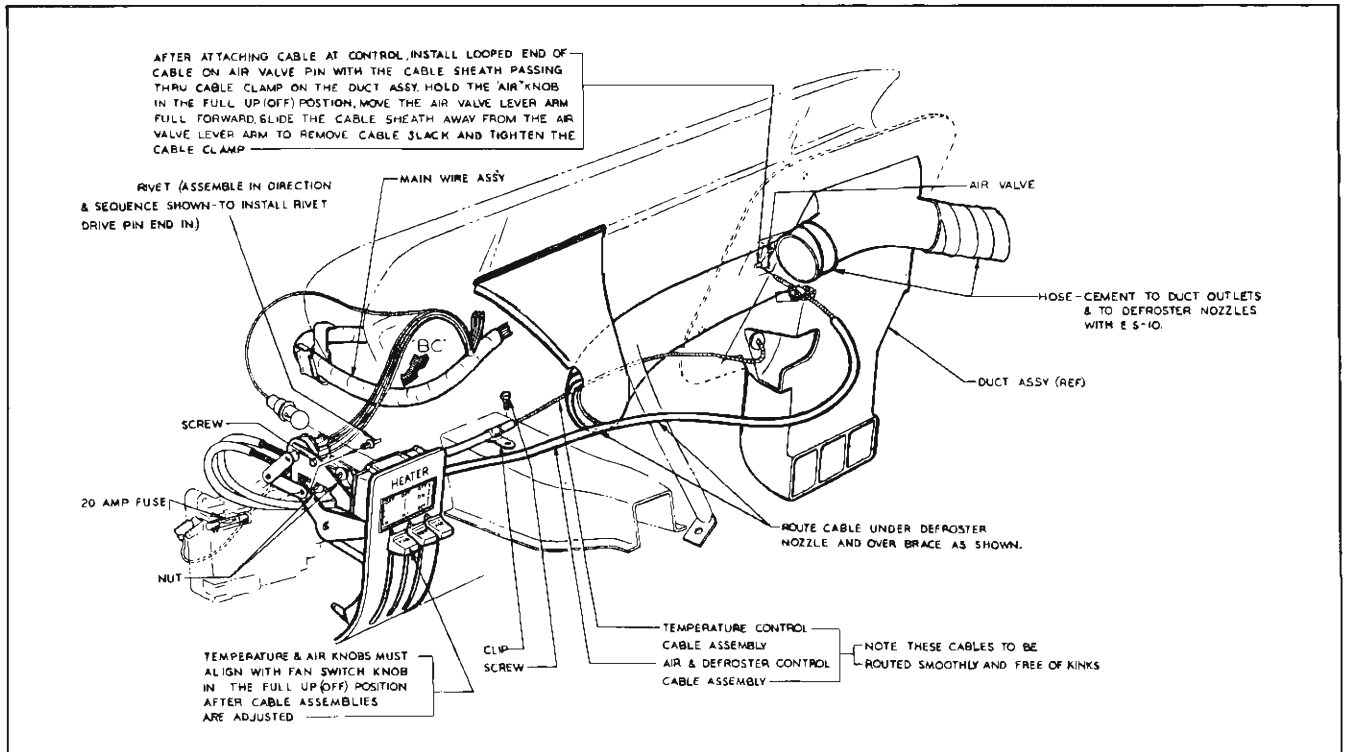

Fig. 12-7 Reference Illustration—Body Interior Details
3. Loosen the bowden cable clamp in the heater air outlet duct (Fig. 12-7).